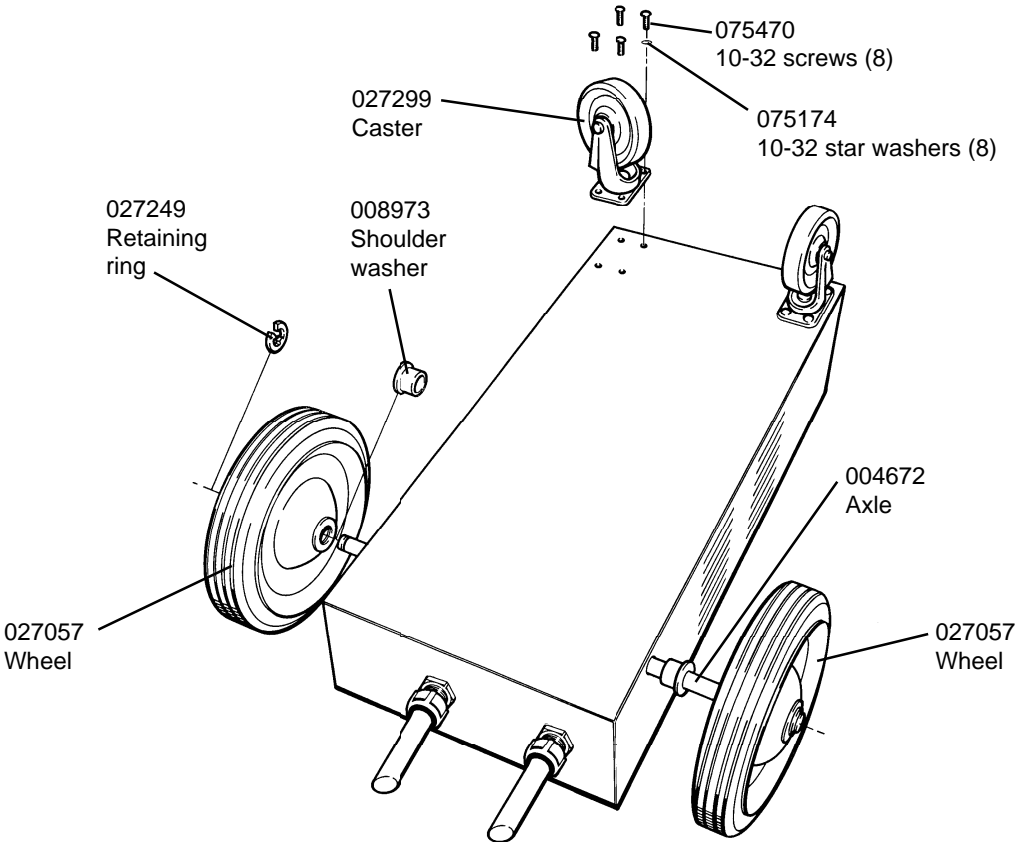

Figure 2-2 Wheel and Caster Installation
1. Attach the 027299 casters to the case with the 075470 10-32 screws and 075174 star washers as shown in Figure 2-2.